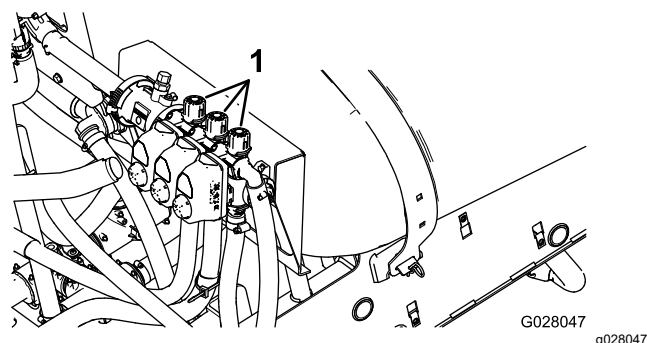

Figure 70
- Adjust the right section-bypass valve (Figure 70) until the pressure reading is at the previously adjusted level (typically 2.75 bar or 40 psi).
- Adjust the center section-bypass valve (Figure 70) until the pressure reading is at the previously adjusted level (typically 2.75 bar or 40 psi).
- Turn off the left-section switch and adjust the left section-bypass valve (Figure 70) until the pressure reading is at the previously adjusted level (typically 2.75 bar or 40 psi).